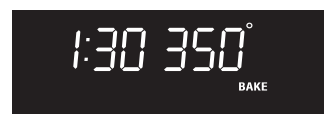

Fig. 1
2. Press , 350° will automatically appear in the display (See Fig. 1).